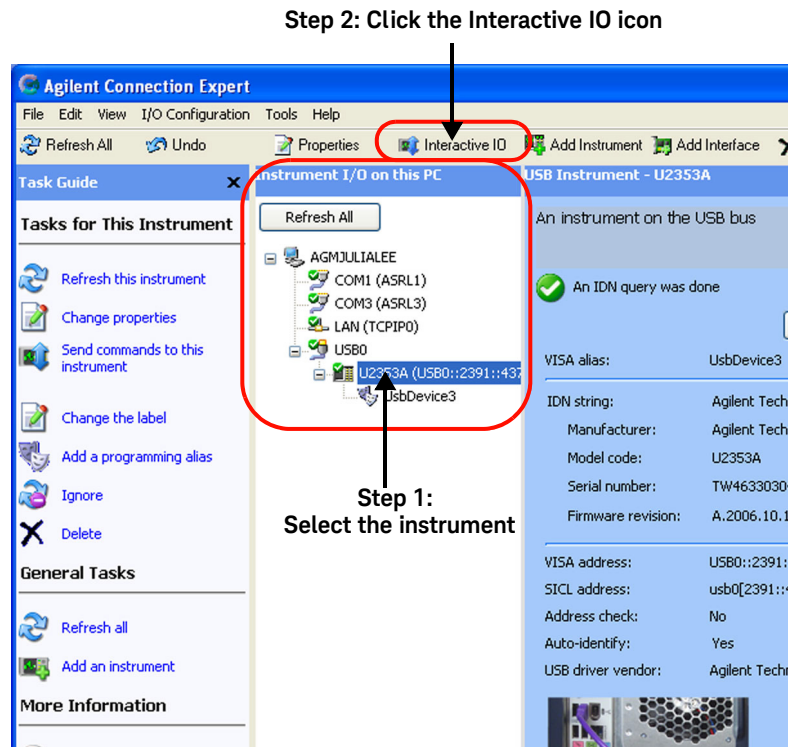

Figure 2-9 Launch the Interactive IO in Keysight Connection Expert
- 6 The calibration process will take a few minutes to be completed. Once done, the status and results of the process will be displayed as shown in Figure 2-9.